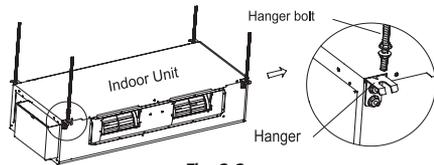

Fig. 2.2
5. Install the 4 hanger brackets to unit as shown in fig 2.2.